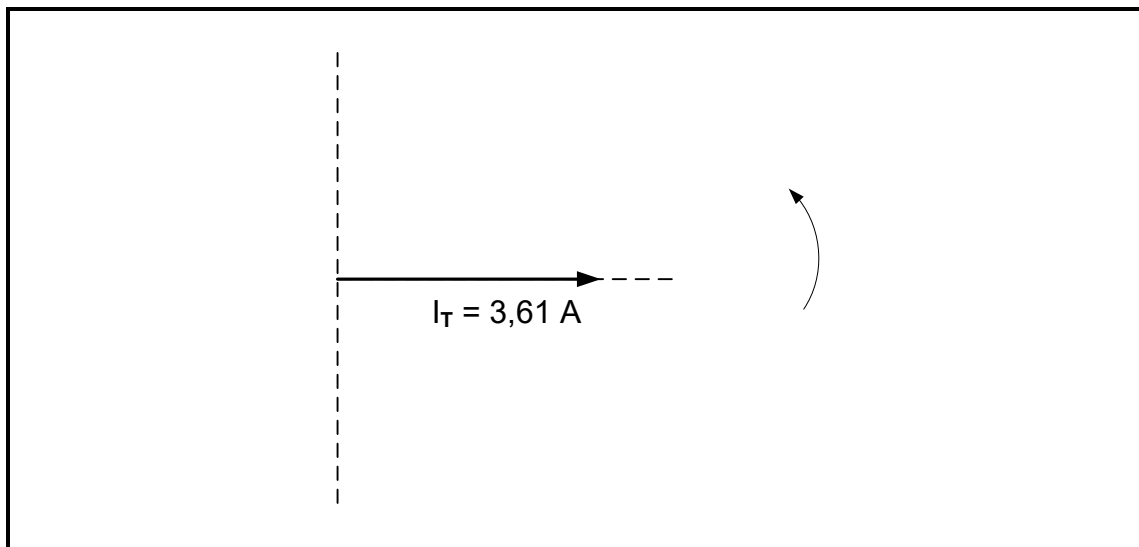

FIGURE 3.3: INCOMPLETE VOLTAGE PHASOR DIAGRAM
- 3.3 Redraw and complete the voltage phasor diagram of QUESTION 3.2 in FIGURE 3.3 below in the ANSWER BOOK.